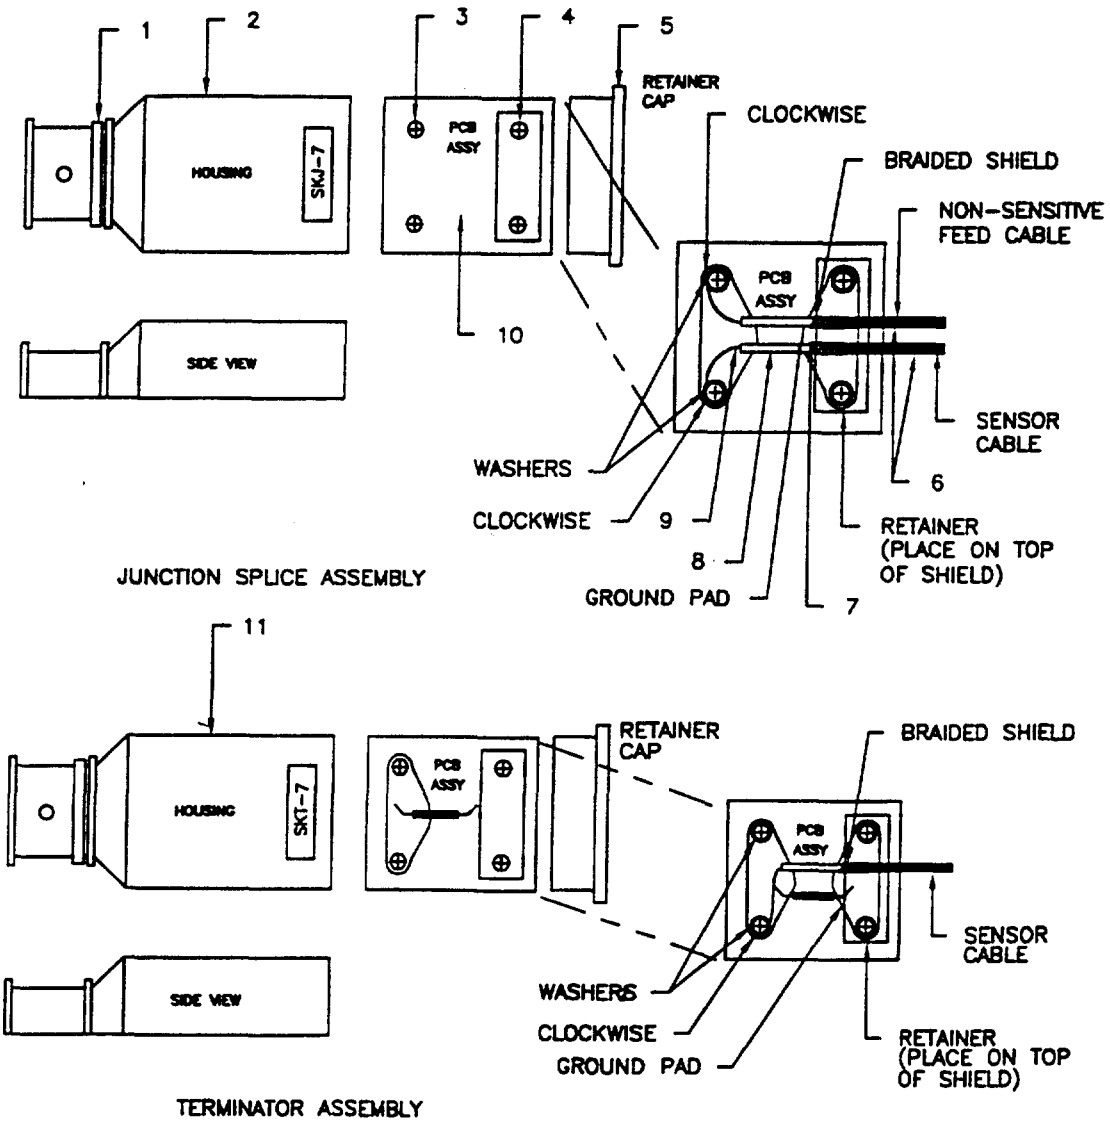

Figure 3-71. Removal and Replacement of Strain Sensitive Cable Sensor
**3-126. REPLACE STRAIN-SENSITIVE CABLE FENCE SENSOR, JUNCTION SPLICE ASSEMBLY, OR TERMINATION ASSEMBLY.** (Figure 3-71 and 3-70).
- (2) Using diagonal cutting pliers, cut coaxial cables (6) (Figure 3-71) as close to retainer cap (5) as possible.
- (3) Using diagonal cutting pliers, cut tie wrap (1) and remove junction splice assembly (2) or terminator assembly (11) from fence.